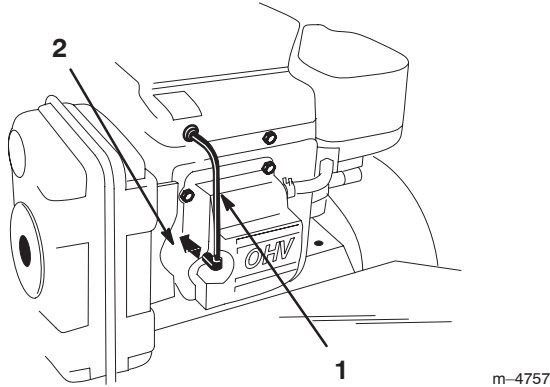

Figure 40
3. Pull the wire(s) off the spark plug(s) (Fig. 40). Now clean around the spark plug(s) to prevent dirt from falling into the engine and potentially causing damage.
- Push the wire(s) onto the spark plug(s) (Fig. 40).